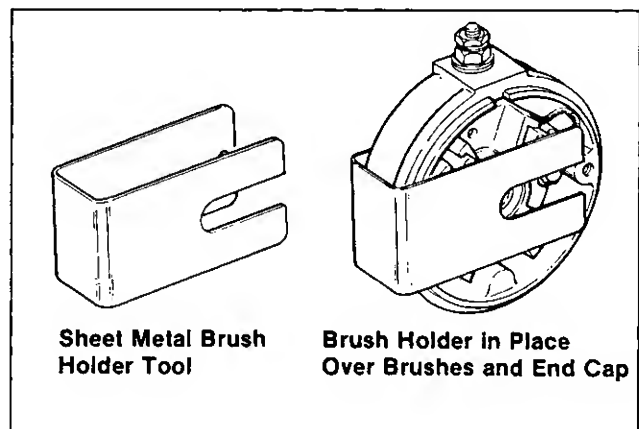

Figure 6-11. Brush Holder Tool
6. To keep brushes in position so that they will fit over the commutator as the end cap is reinstalled, use a brush holder tool as shown in Figure 6-11. It can easily be cut out of thin sheet metal.